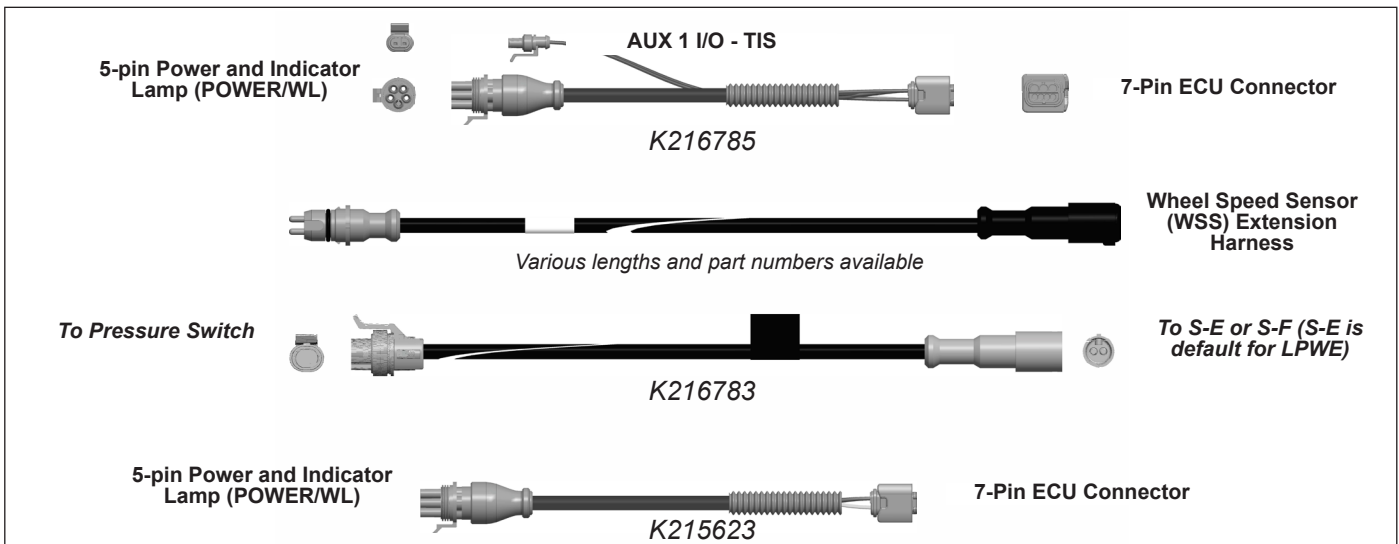

Figure 5 – Examples of Wiring Harnesses
- **5-pin Power Harness:** See Figure 5. A power harness is required. Variations that include auxiliary sub-harnesses are available as needed.
- **Frame (Chassis) Mount:** The TABS-8 Advanced Module provides through-holes for frame mounting directly to the trailer frame rail or cross-member. It is recommended to use two (2) grade 5³/₈-in. 16 bolts, typical length of 5 in., torqued to 180 - 220 in-lbs (20 - 25 N•m).
See Figure 5. Pigtail wiring harnesses are available to connect the TABS-8 Advanced Module with the ABS and other trailer system components. Pigtail harnesses are weather-sealed at the connector interface and are clearly labeled for proper installation. Because of the over-molded design of the TABS-8 Advanced Module wiring harnesses, Bendix recommends the complete harness be replaced if damage or corrosion occurs.
See Figure 5. TABS-8 Advanced Module ECU connectors use a 7-pin TE Connectivity™ HDCS connector for brake light power, constant power, the trailer-mounted ABS indicator lamp, ground, and – depending on the harness version – it may include the AUX 1 I/O. Note that some parts may be pre-configured with auxiliary features on the AUX 1 I/O and S-E/S-F inputs that may require additional harnessing as shown in Figure 5.
The Bendix® TABS-8™ Advanced Module pigtail uses a TTMA RP 7-99 5-pin Packard® Weather Pack connector for brake light power, constant power, ground, and the trailer-mounted Antilock Braking System (ABS) indicator lamp. *See Figure 5.*